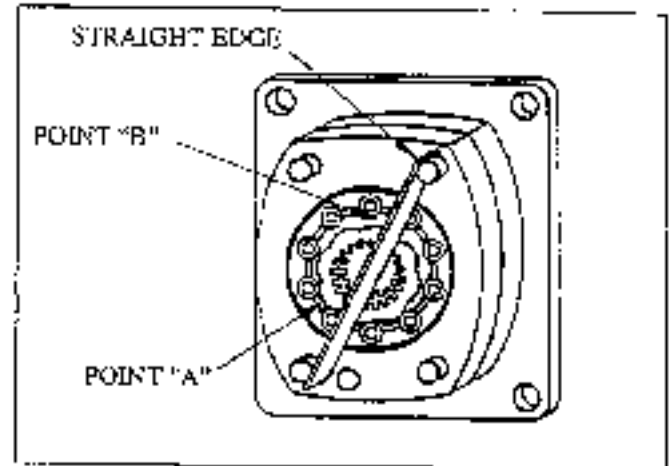

Figure 44
- Determine the center axis of the geroler assembly by joining the "high" and "low" positions of the center star rotor. See figure 44 & 45.